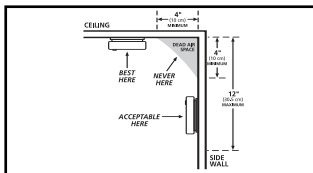
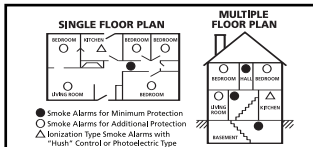

FIGURE 1
FIGURE 2
- When mounting an alarm on the ceiling, locate it at a minimum of 4" (10 cm) from the sidewall (see figure 1).
- When mounting the alarm on the wall, use an inside wall with the top edge of the alarm at a minimum of 4" (10 cm) and a maximum of 12" (30.5 cm) below the ceiling (see figure 1).
Modern mobile homes have been designed and built to be energy efficient. Install smoke alarms as recommended above, refer to RECOMMENDED LOCATIONS and Figure 1. In older mobile homes that are not well insulated compared to present standards, extreme heat or cold can be transferred from the outside to the inside through poorly insulated walls and roof. This may create a thermal barrier that can prevent the smoke from reaching an alarm mounted on the ceiling. In such units, install the smoke alarm on an inside wall with the top edge of the alarm at a minimum of 4" (10 cm) and a maximum of 12" (30.5 cm) below the ceiling (see figure 1). If you are not sure about the insulation in your mobile home, or if you notice that the outer walls and ceiling are either hot or cold, install the alarm on an inside wall. For minimum protection, install at least one alarm close to the bedrooms. For additional protection, see SINGLE FLOOR PLAN in figure 2.